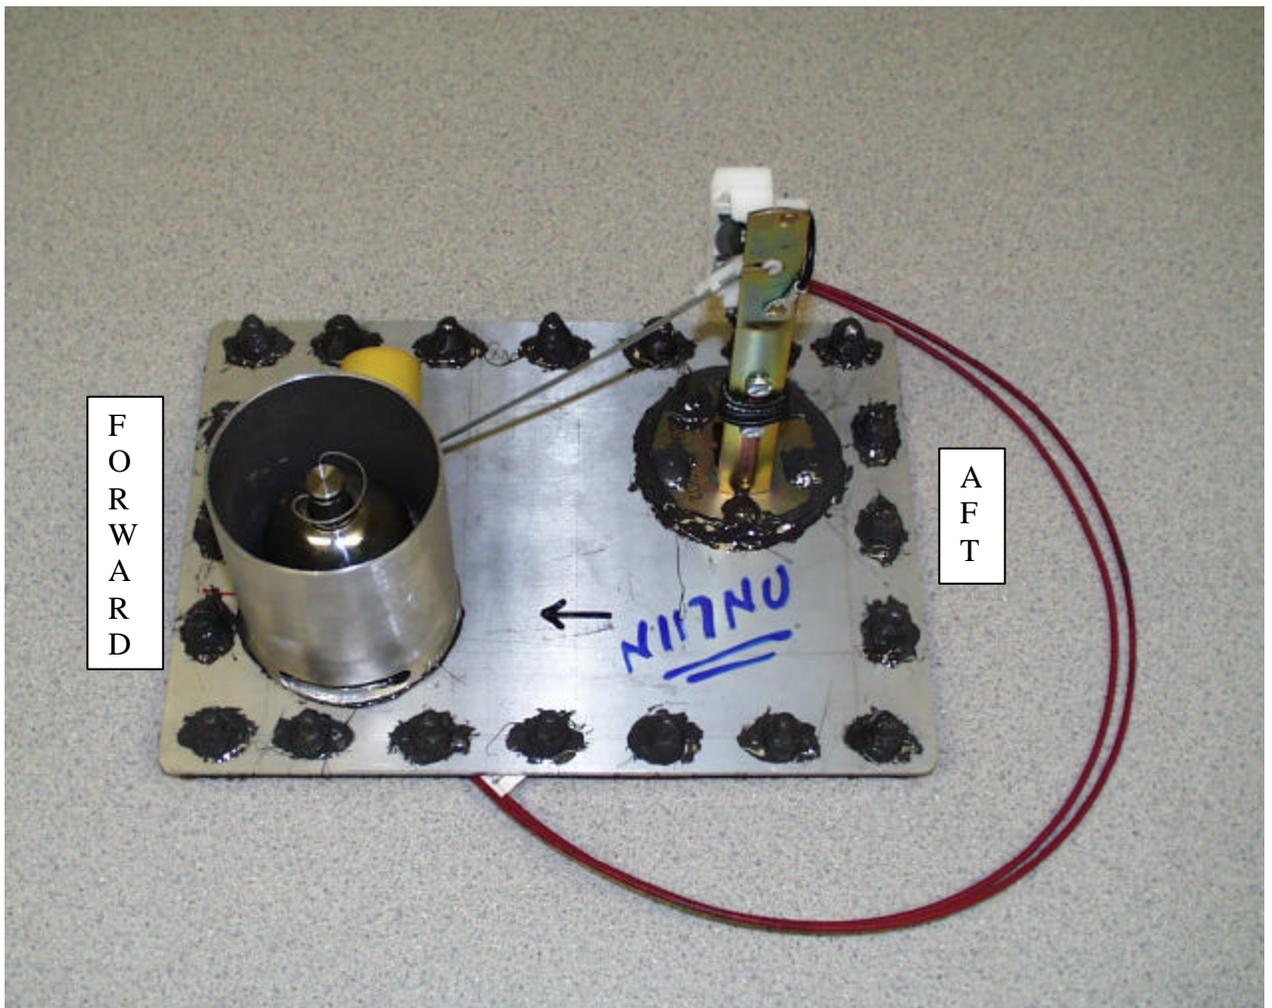

Figure 1
- d. Remove the float sender for the auto fuel system (forward sender) and replace with the float switch shown in Figure 1. Be sure to install the float switch gasket with 8802 B-1/2 sealant to prevent any leaks.